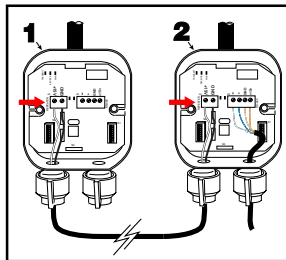

Fig. 14
Install repeater with clear line of sight to maximum number of transmitters as possible. You can give power to repeater (Item 1 Figs. 14/15) either:
- From Receiver (Item 2 Fig. 14), or